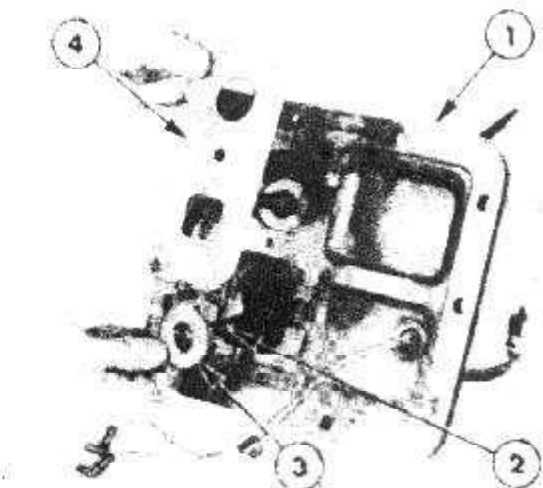

Figure 5
3. Disconnect the safety start switch wires from the harness connection, Figure 5.